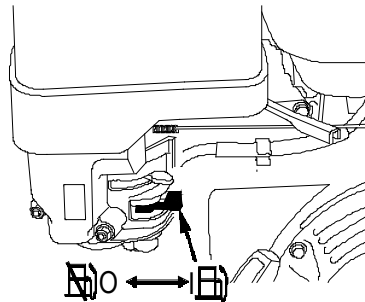

fig. 13
- Move the FUEL VALVE to the ON position (fig. 13).